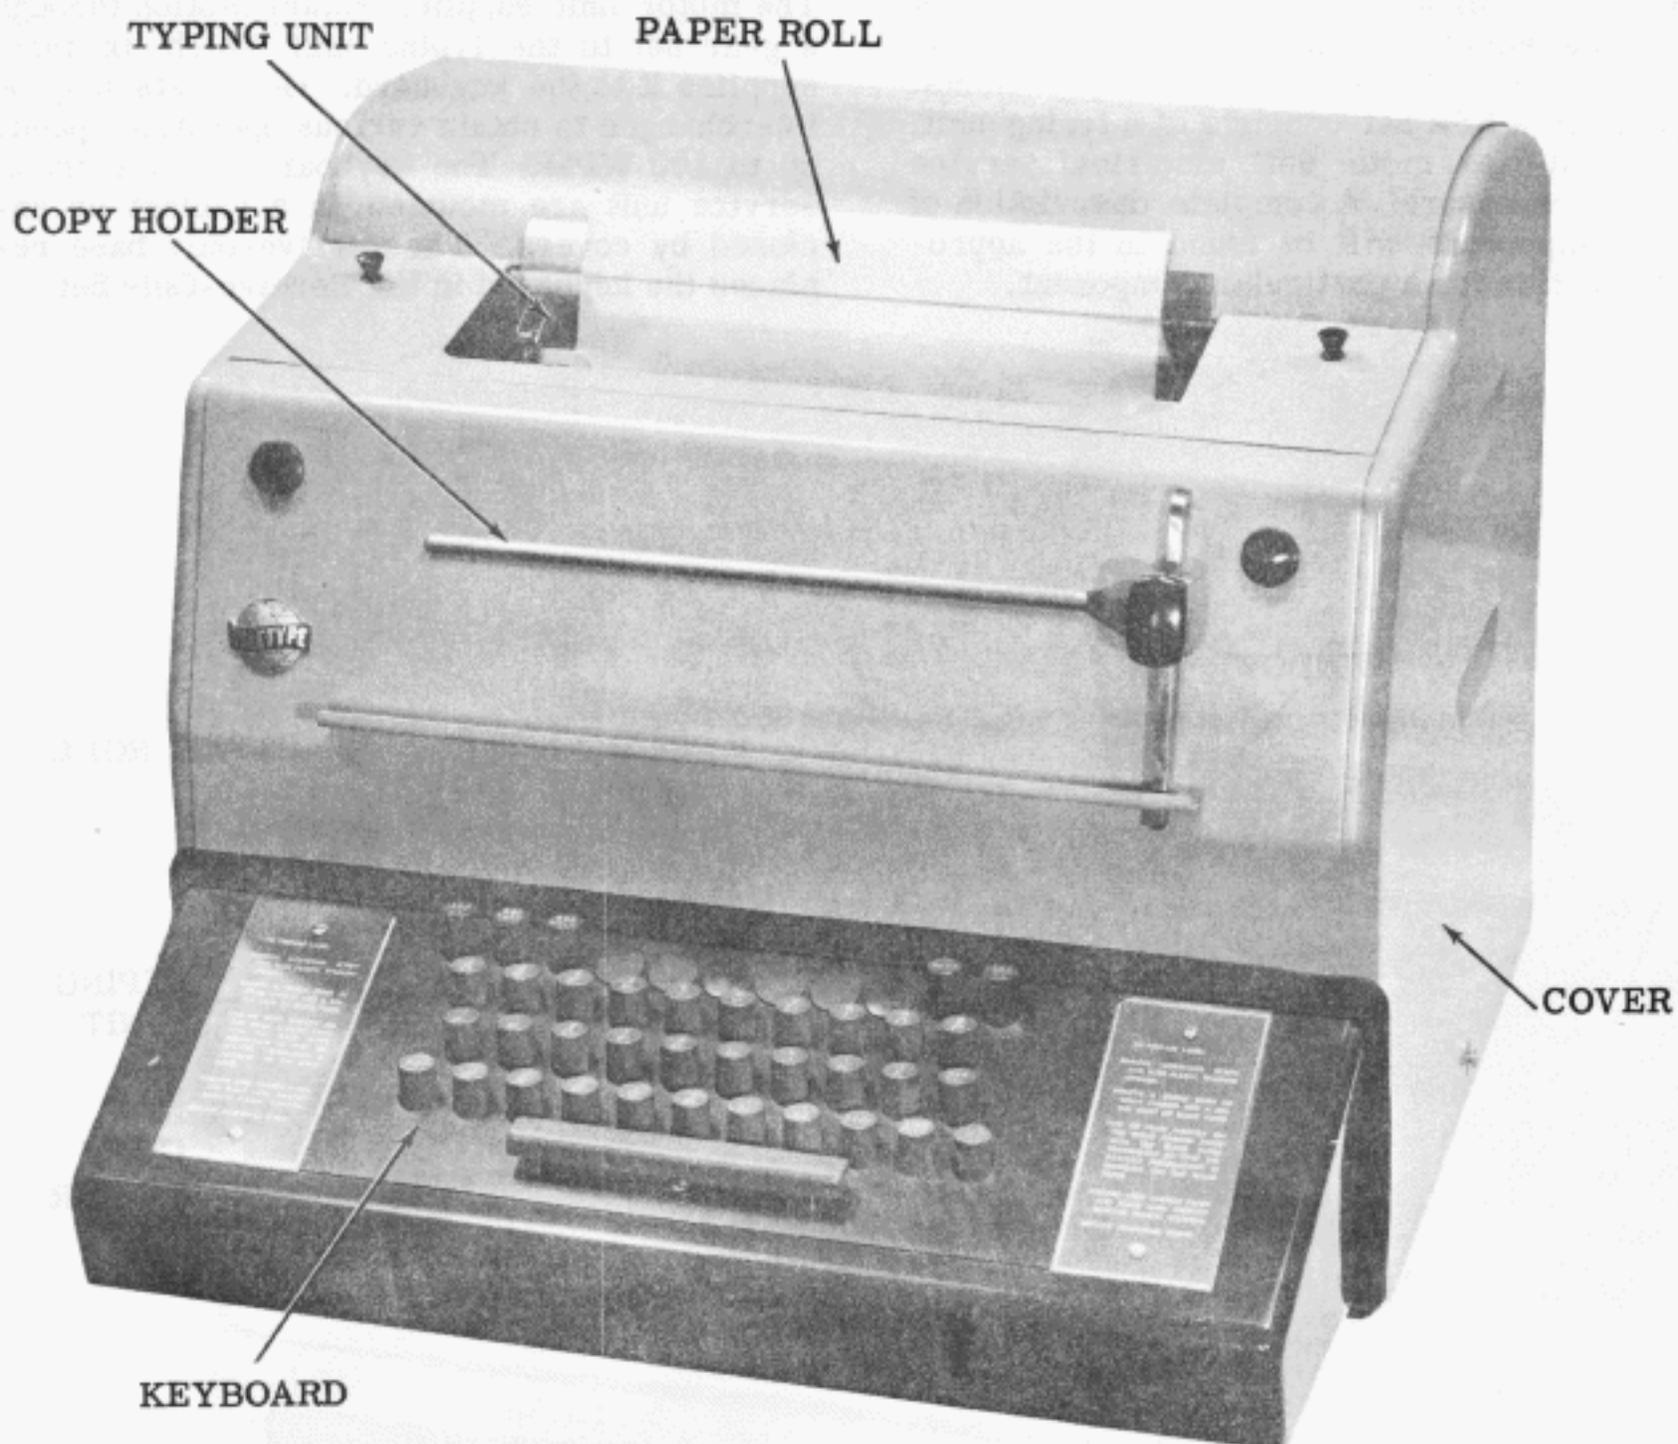

Figure 3 - Rack Mounted Send-Receive (KSR) Teletypewriter Set
- (c) Rack Mounted Set - Equipped with a close-fitting enclosure, is compact and rests on an equipment rack or on a table (Fig. 3).